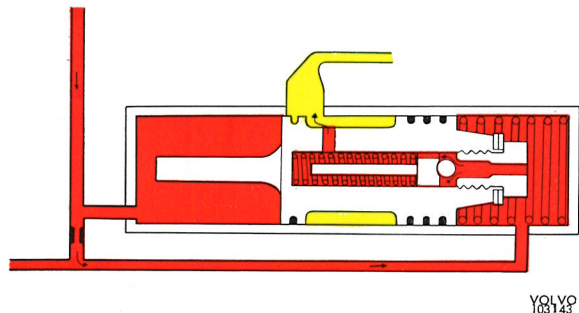

Fig. 6-49. Control valve, maximum pressure
Should the pump flow through the outlet be stopped, for example, because the front wheel turning is blocked, the pressure in the delivery line (1), will rise and the pressure difference between both ends of the control valve will be equalized. This will cause the spring to be moved to the left, the connection with the return channel to be closed and the pressure to rise even more. At approx. 75 kp/cm2 (1065 psi) the spring pressure on the safety valve (6) is overcome, that is, the inner part of the control valve, and oil can then pass out to the return channel (4). See Fig. 6-49. The pressure on the